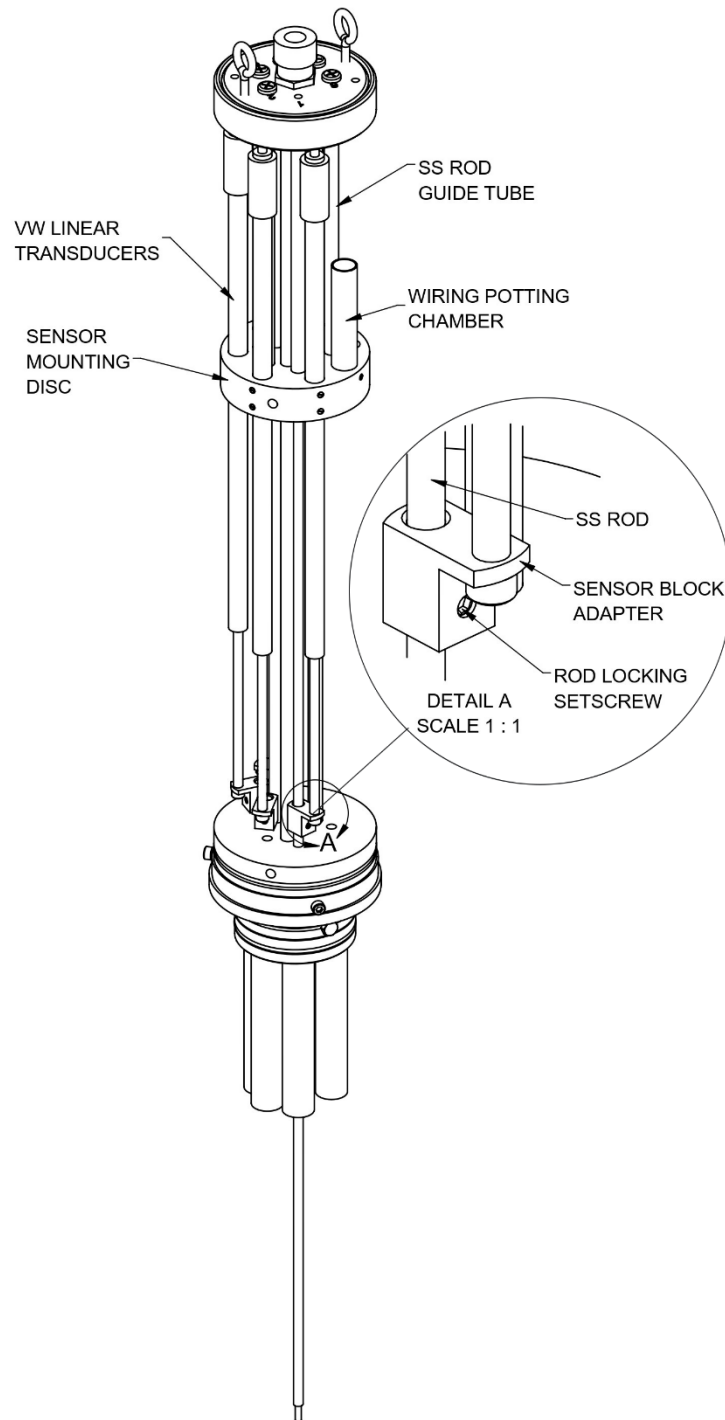

Figure 15: Internal Components of the Rigid Rod MPBX
1. Before the grout sets, place the aluminum Grout Collar into the borehole collar with approximately 75mm (3") of Grout Collar sticking above the borehole surface (see Figure 15).
NOTE: Complete steps 8 – 14 while referring to Figure 15, illustrating the internal components of the Rigid Rod MPBX.